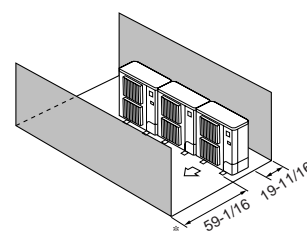

Fig. 2-11
- ④ Obstacles at front and rear only (Fig. 2-11)